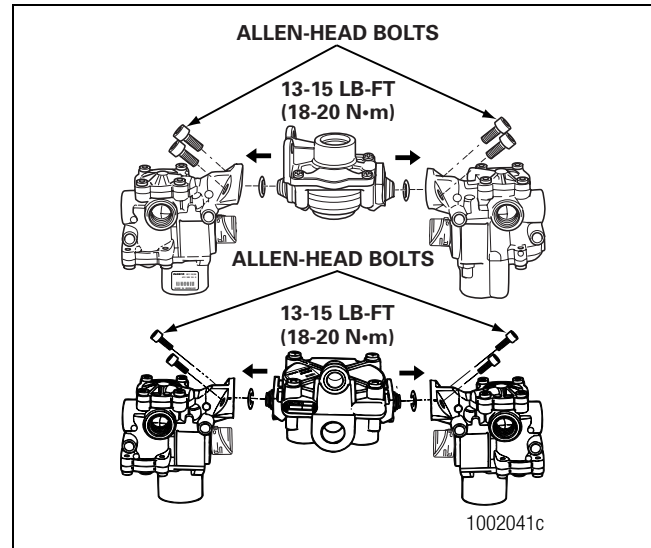

Figure 4.9
1. Remove the ABS valve package from the vehicle. Figure 4.9.